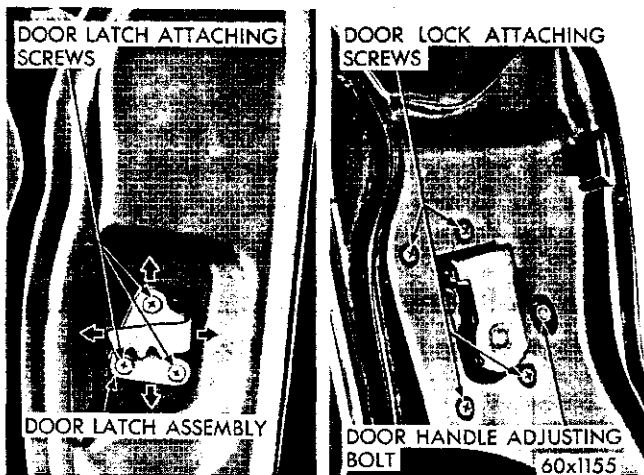

Fig. 10—Door Lock Rotor and Striker Plate Assembly
(1) Make a thorough inspection of the door before attempting adjustment. A properly fitted door has evenly spaced gaps on all sides.
(2) Test the engagement of the door latch with the striker plate.
(3) If the door raises as the latch passes over the plate, the plate is too high and must be lowered.
(4) The striker plate, as shown in Figure 10, can be moved "in" or "out" and controls the tightness of the door against the body.
(5) The "up" and "down" adjustment will determine the actual point of engagement between the